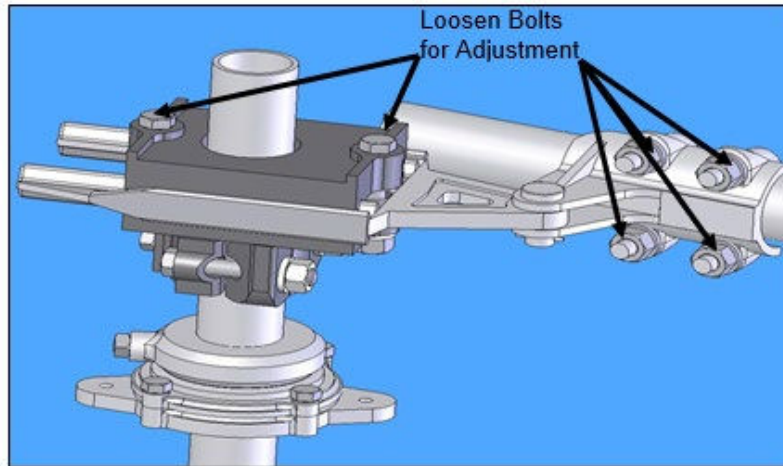

Figure 19: Adjustable Arm Assembly
- 6.4.3.5. Lengthen the adjustable radius arm approximately $\frac{1}{4}$ inch. Allow the pipe clevis to reposition itself the same $\frac{1}{4}$ inch. Refer to **Figure 19**.
- 6.4.4.5. Shorten the adjustable radius arm approximately ¼-inch. Allow the pipe clevis to reposition itself the same ¼ inch. Refer to **Figure 19**.